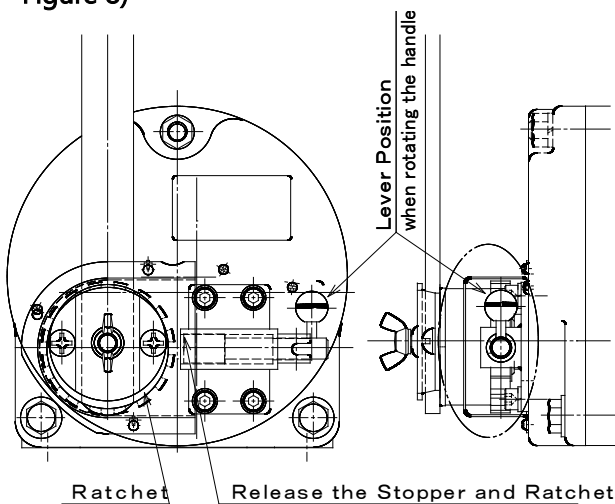

Figure 7 When conducting handle operation
(1) First, grasp the handle firmly in your hand, keep hold of it, and then move the lever to the position shown in Figure 7 to turn the stopper OFF (release). It may be difficult to release the stopper when a load is applied because it will weigh down the stopper. Rotating the handle by a little will be easier to release the stopper. In addition, if the stopper is released without holding onto the handle while tension is being applied on the wire rope, no brake will be applied, and the drum and handle will rotate rapidly. This is very dangerous because it may result in serious injuries to the arm or other areas caused by the rotating handle.